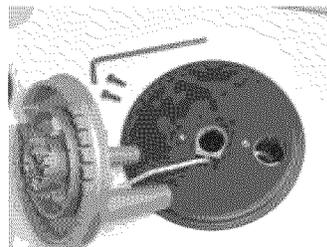

Fig. 8
- Remove Triple Ring Burner Head and place on cooktop as shown in Fig. 8. **PLEASE NOTE:** Be careful not to pull the spark wire lead with excessive force. Leave the Triple Ring Mounting Skirt & Mounting Gasket setting in place on the cooktop as shown in Fig. 8.